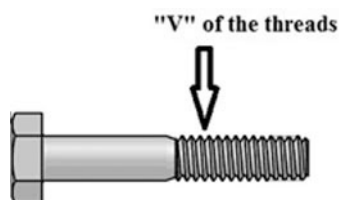

Figure 3-1. “V” of the threads.
- When a weapon-specific document specifies the type of compound, apply the compound only to the bolt or screw. Use only a sufficient amount of compound to fill the “V” of the threads (fig. 3-1). After installing bolt or screw, remove the excess compound.